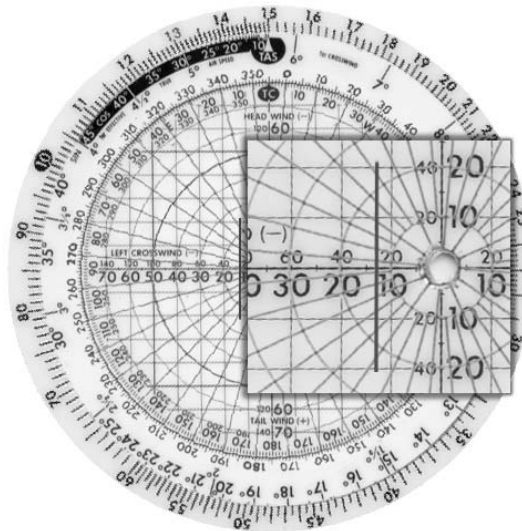

Figure 4.6-8 In-Flight Wind Calculation 5
5. Choose a scale and draw a vertical line representing the crosswind component (As per the estimate, to the right, because of the left drift) (Figures 4.6-8).
9. The magnitude is determined by using the same scale from steps 5 & 6, in this case 43 kts. (Figure 4.6-8, 4.6-9)